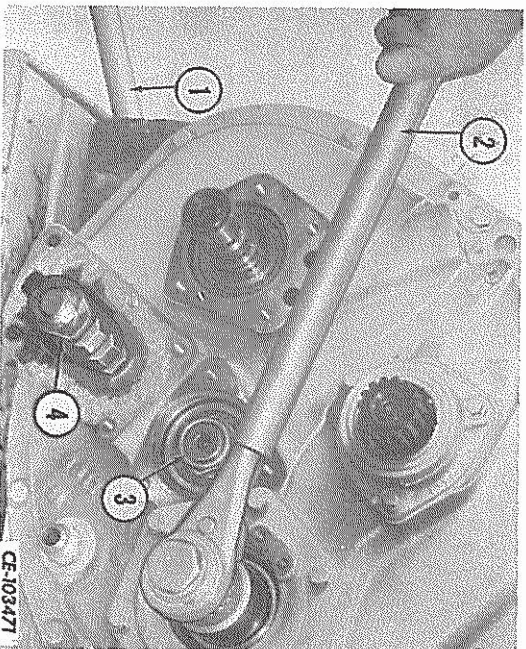

FIG. 22 — Removing the Bevel Pinion Shaft Front Nut
13. Place a 3/4 inch square drive breaker bar in the rear of the pinion shaft. Place an extension bar (1, Fig. 22) over the breaker bar handle to hold the pinion shaft from turning while removing the pinion shaft front nut. Remove the front nut using an extension bar (2) for leverage.
To remove the spline shaft nut (3, Fig. 22), hold the bevel pinion shaft by placing the extension bar (1) on the opposite side of the transmission. Place the high and low gear in mesh with the low range driven gear on the bevel pinion shaft by pushing the hi-lo shifter shaft (4) in against the transmission front cover. This will keep the spline shaft from turning as the nut is loosened with a socket, breaker bar and extension bar.